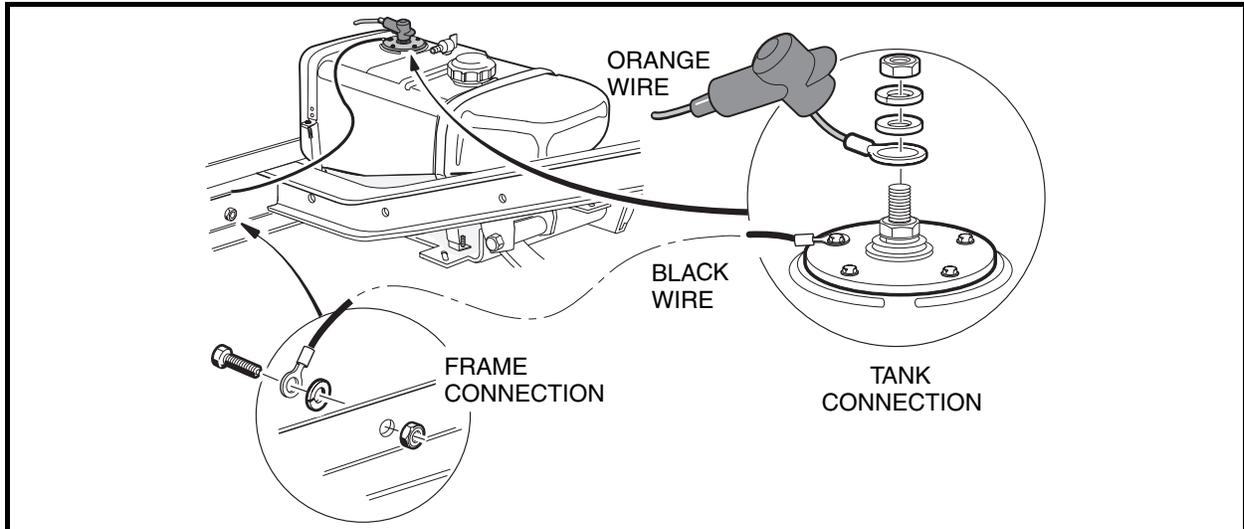

Figure 14-14 Fuel Level Sending Unit
9. If vehicle is equipped with a fuel gauge, disconnect the black wire and orange wire from the fuel level sending unit on the tank (**Figure 14-14, Page 14-23**). Do not remove the lower nut on the center stud of the sending unit. **See following WARNING.**
7. Slide the rubber boot over the stud **(Figure 14-14, Page 14-23)**.